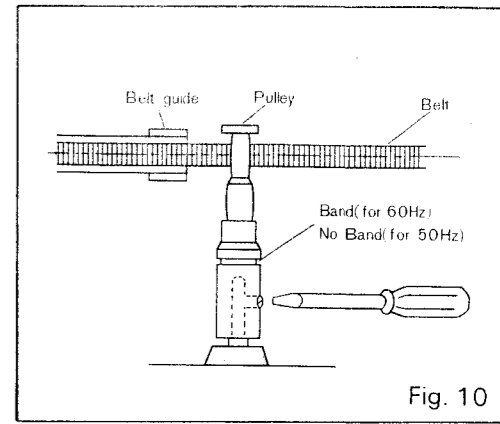

Fig. 10
- Yes: Check the pulley. (Fig. 10: 50 Hz pulley has no band; 60 Hz pulley has a band)
- Yes: Check the position of belt guide, pulley and belt. (Fig. 10)